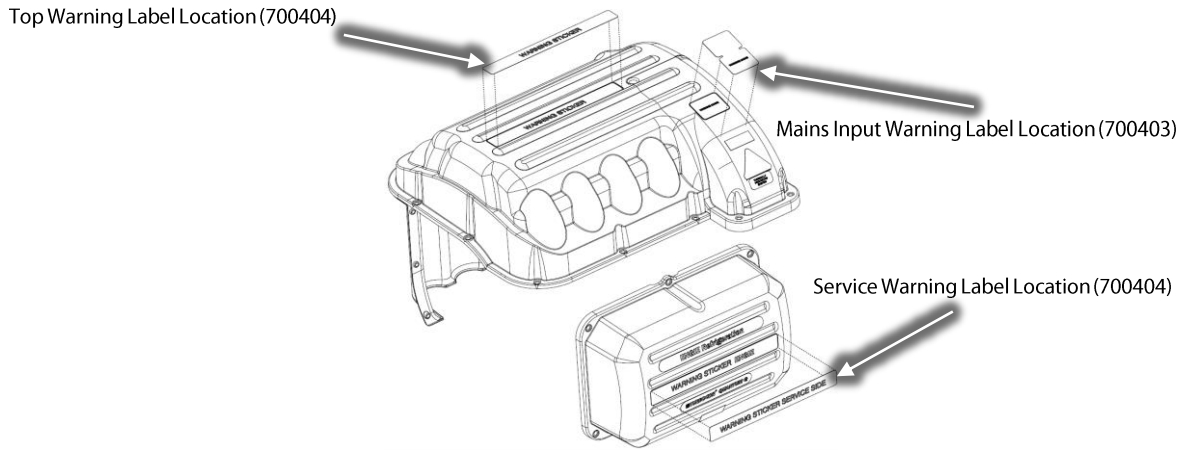

Figure 1 – Warning Label Locations
1. Locate the existing warning labels on the Top Cover, Mains Input Cover, and Service Cover. Refer to Figure 1 (Warning Label Locations).
4. Adhere the warning label over the existing label. Be sure that the label is in the same orientation and location as the current label as shown in Figure 1 (Warning Label Locations).
6. Repeat Steps 2-5 for the remaining labels until all three (3) stickers are applied.